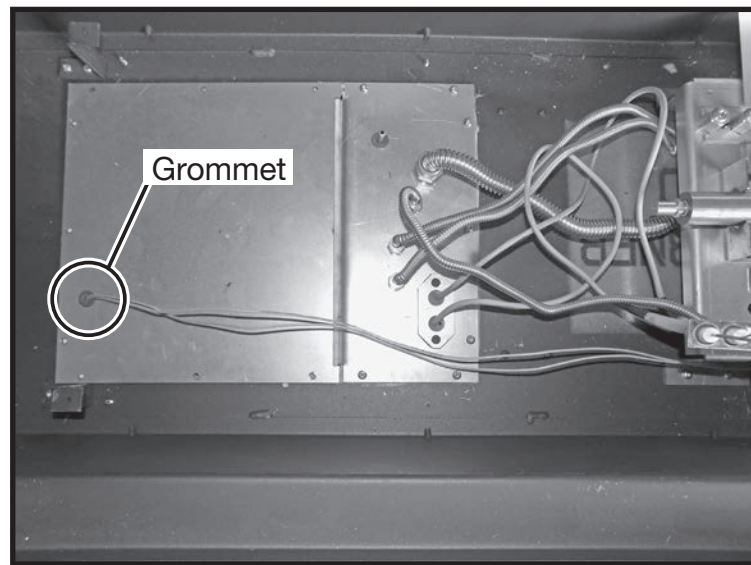

Figure 41: Wires through grommet.
2. Remove large cover panel. If this fireplace has lighting built in to the secondary floor, it will be necessary to disconnect the lighting wires from the electrical connection compartment in front of the control box in order to withdraw the lighting wires through the grommet (Figure 41). Make sure that the power is turned off at the breaker box.